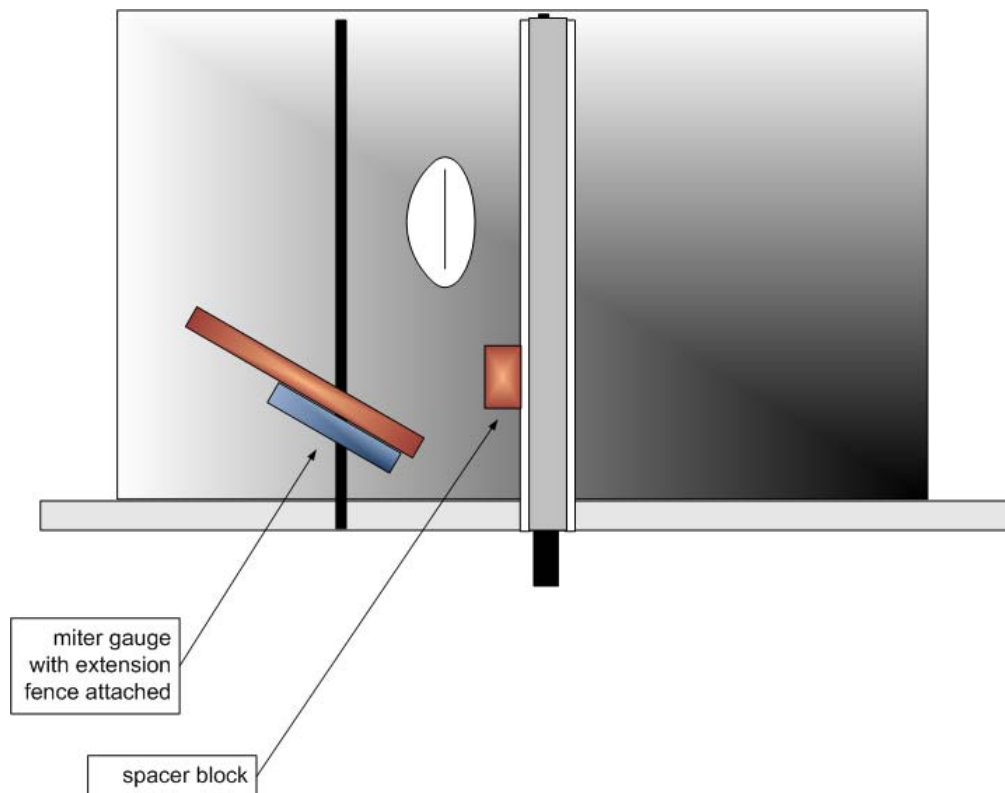

Figure 3. Setup of Table Saw
Step 2. Set up the table saw and miter gauge as shown Fig. 3.